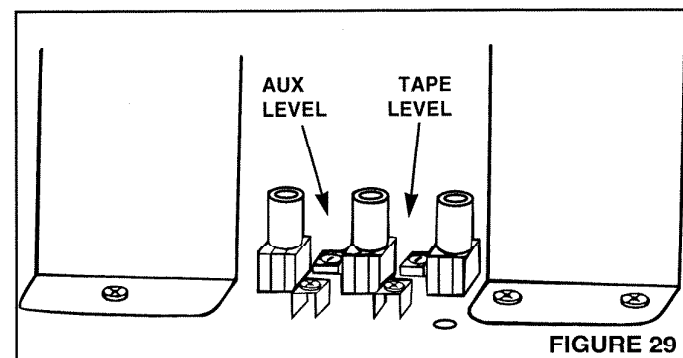

FIGURE 29
5. Refer to **Figure 29**. Using a thin-blade screwdriver, adjust the **TAPE/AUX** control to match the audio level of the external audio source with the FM radio.